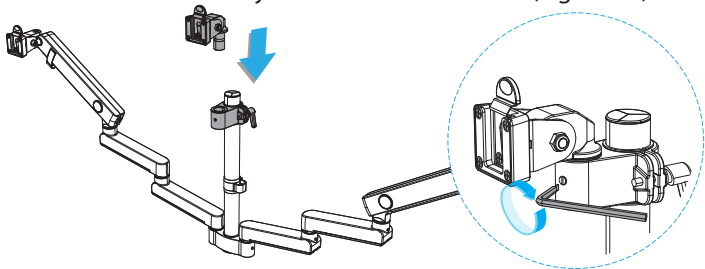

Figure 13
2. Insert the **Center Monitor Mount** into the **Monitor Mounting Hole** of the **Center Pole Mount**. Use the **Flat Head** side of the **3mm Hex Key with Flat Screwdriver** to tighten the **Swivel Screw**. (Optional) Slightly **Loosen** the **Swivel Screw** to adjust the **Swivel Tension**. (Figure 13)